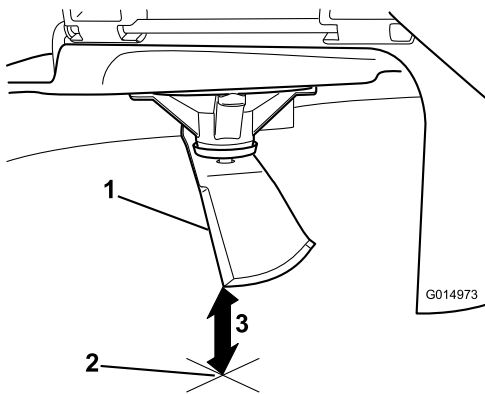

Figure 104
5. Measure from the tip of the blade to the flat surface (Figure 104).